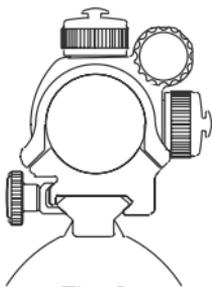
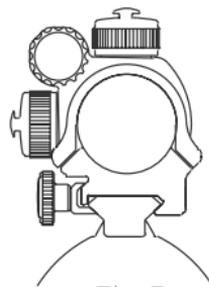

Fig. 2
Fig. 3
- b) Ensure that the sight is correctly positioned for right or left hand shooting, see fig 2 and 3.
The elevation adjustment screw is located on top of the sight, while the windage screw is located on the right or left side, depending on how the sight has been mounted on the weapon. (Aimpoint sights can be installed to support either right hand (fig 2) or left hand (fig 3) shooters.)